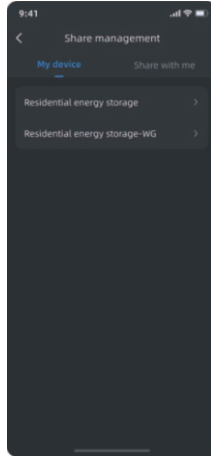

Figure 1
- 1 )Figure 1: Display the bound devices, select the device to enter the "Device Sharing" page.